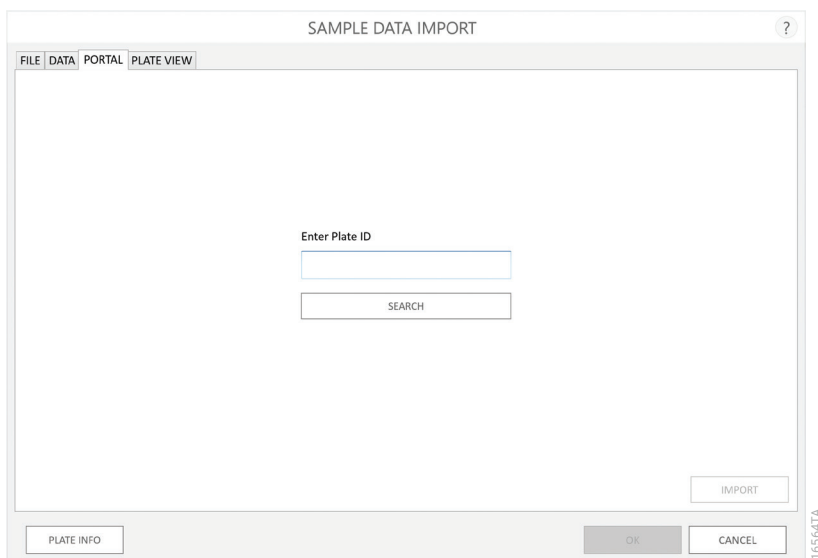

Figure 44. Portal Tab on the ‘Sample Data Import’ screen. Use the Portal tab to retrieve plate map information from the Portal software.
4. From the ‘Sample Data Import’ screen, tap the Portal tab (Figure 44).